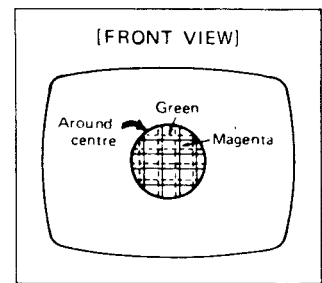

Fig. 22
4. Rotate the rear pair of tabs as a unit to minimize the separation of the magneta (R/B) and green lines. (Fig. 22.)